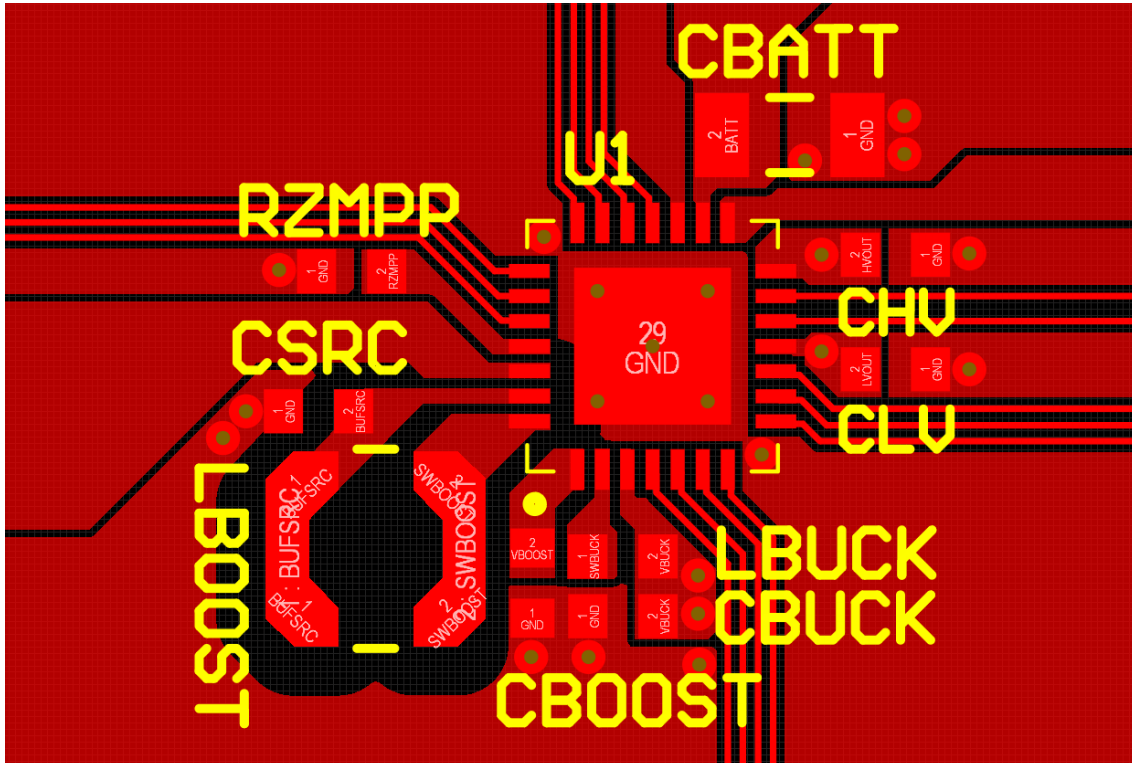

Figure 25: Layout example for the AEM30940 and its passive components
- The switching nodes (**BUFSRC**, **SWBOOST**, **SWBUCK** and **BUCK**) must be kept as short as possible, with minimal track resistance and minimal track capacitance. Low resistance is obtained by keeping track length as short as possible and track width as large as possible between these switching nodes and the AEM30940 pins. Minimal capacitance is obtained by maintaining a large distance between the switching nodes and other signals. We recommend removing the ground plane, the power plane and the bottom layer ground pour under **L_{BOOST}** and **L_{BUCK}** footprints, as well as adding distance between **BUFSRC/SWBOOST** and the top ground pour, as shown in Figure 25.
- The **GND** return path between the decoupling capacitors and the AEM30940 thermal pad, which is the AEM30940 main **GND** connection, must be as direct and short as possible. This is preferably done on the top layer when possible, otherwise by internal/bottom plane, using low resistance vias to decrease layer-to-layer connection resistance. In Figure 25, this **GND** return path is done on an internal plane.